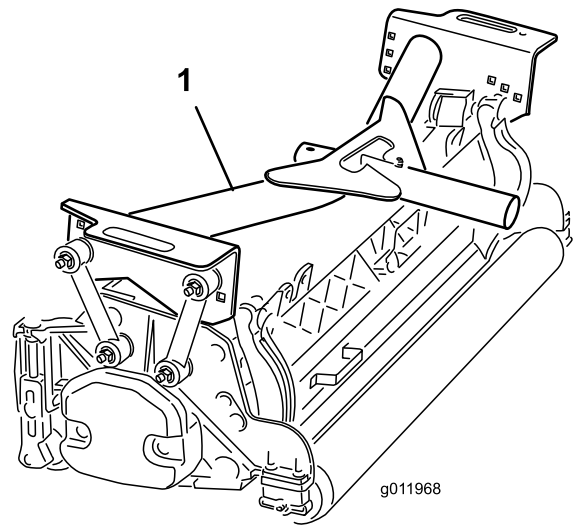

Figure 16
- Position a front carrier frame (Figure 16) onto each front cutting unit.